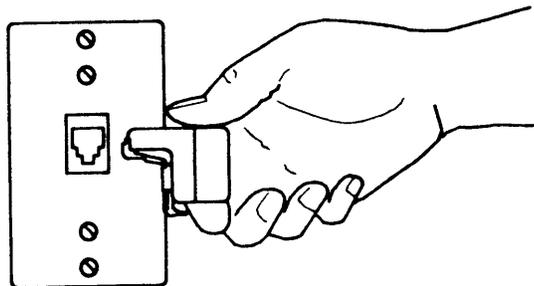

Figure 5
2. If there is a separate network interface for each local telephone exchange service company line or if your system has only one line coming in, go to the next step. Otherwise, plug the (267C) two-line adapter into the jack on the network interface as shown in Figure 5.